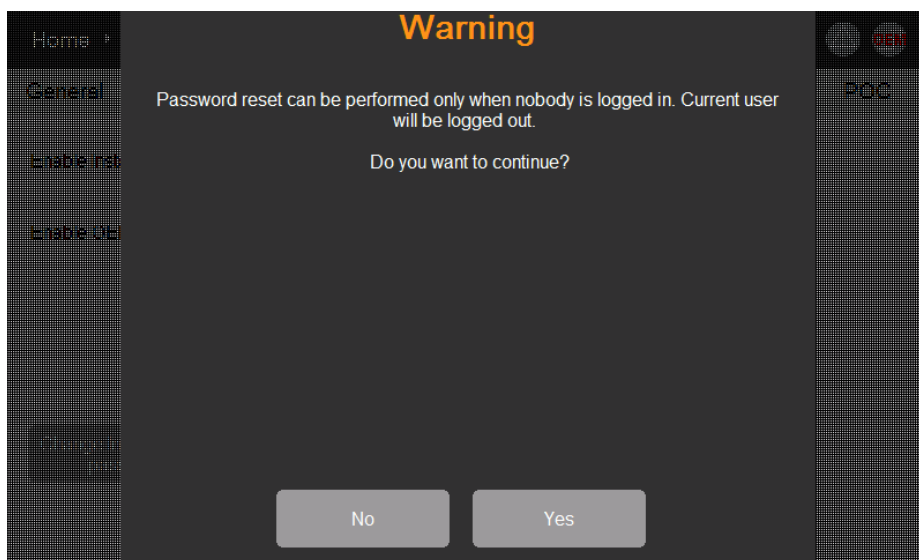

Fig. 94: Password reset warning dialog box.
- a. If the user is logged in when this button is selected, the dialog box shown in Fig. 94 will appear. In this case, select No, log out and perform the above steps again.